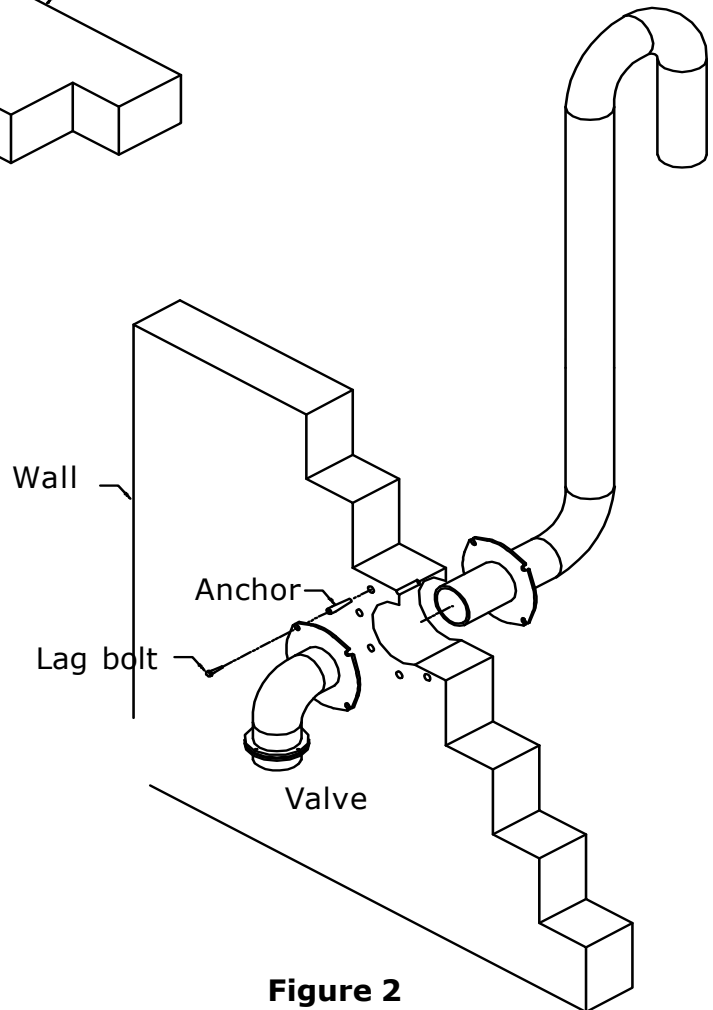

Figure 2
3. Layout and drill holes for lug bolt anchors as shown in fig. 2 in the installation section of this manual, taking care to insure that the overpressure valve hole pattern is centered over the exhaust vent hole cutout.